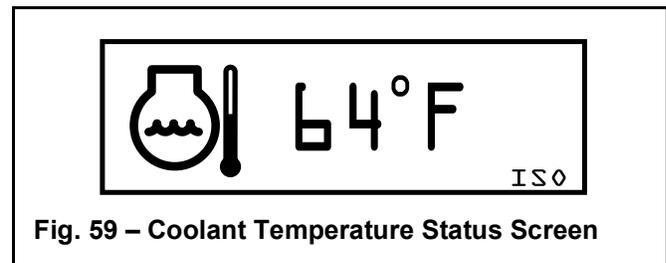

Fig. 59 – Coolant Temperature Status Screen
5. When stationary regeneration completes, the display returns to the coolant temperature status screen (Fig. 59).